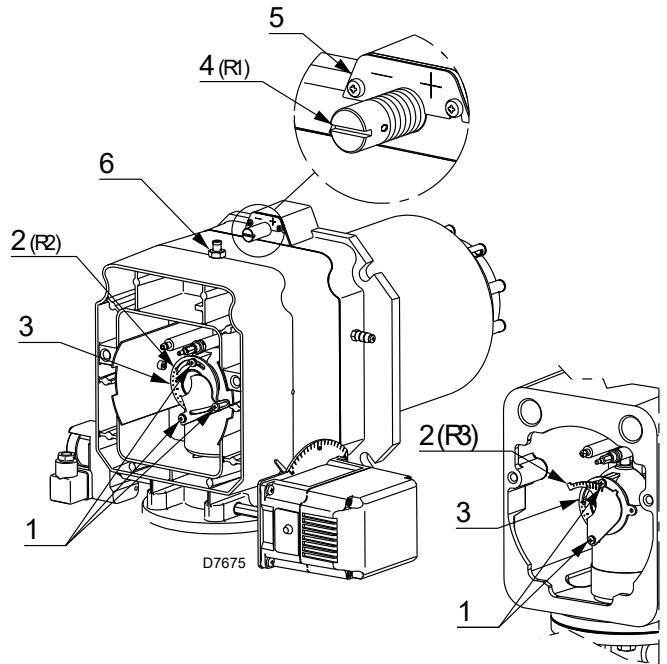

Fig. 19
- Rotate the screw 4)(Fig. 19) until the notch you have found corresponds with the front surface 5) of the flange.
- Loosen the 3 screws 1)(Fig. 19) and rotate the ring nut 2) until the notch you have found corresponds with the index 3).